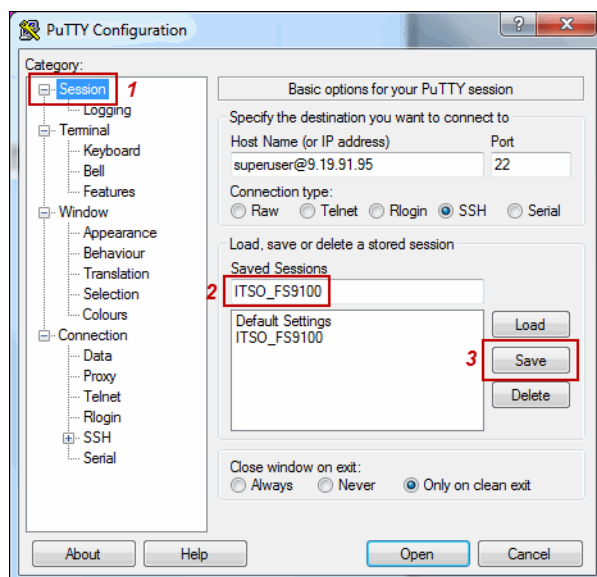

Figure 8-12 Save PuTTY session for use with plink
4. Complete saving the session (Figure 8-12) by returning to the Session Panel (1), confirming the session name (2), and clicking **Save** (3).